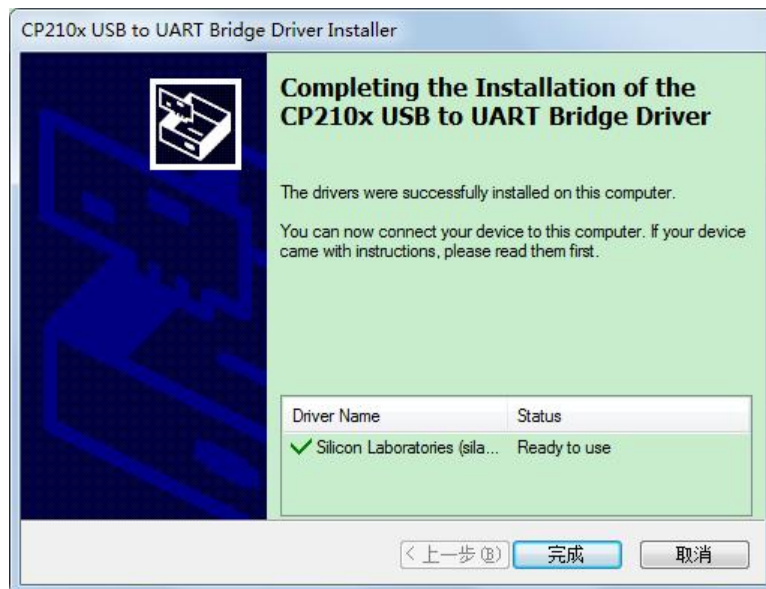

Figure 4-9 Pop-up window for USB installation complete
9. Upon USB driver installation, an installation complete window as shown in Figure 4-9 will pop up.